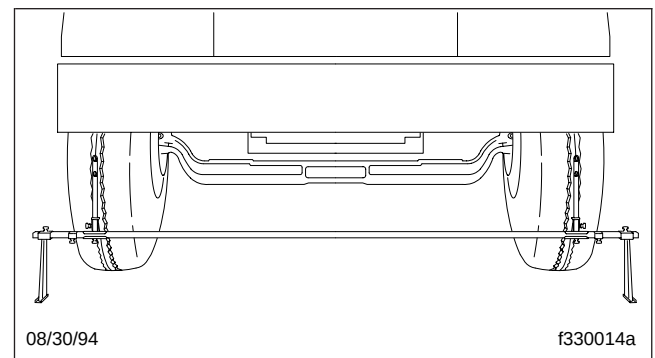
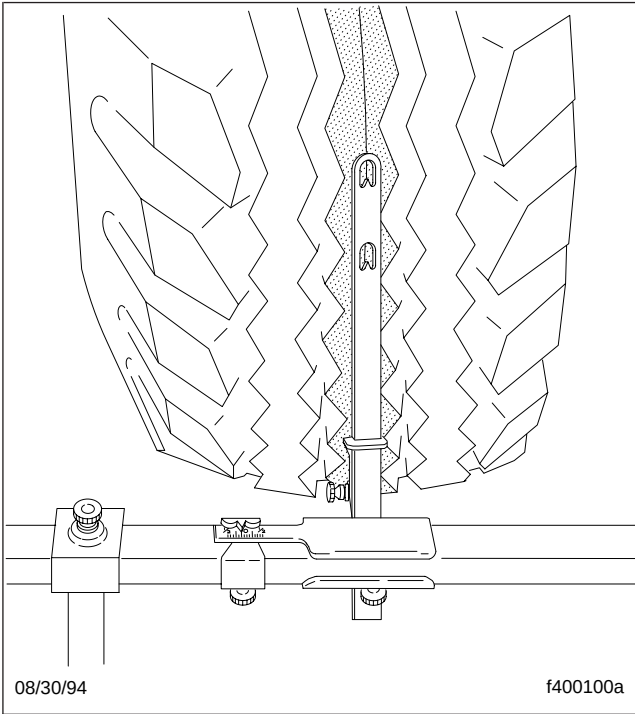

Fig. 2, Trammel Bar Positioning
Fig. 3, Calculating Wheel Toe-In
7. Place the trammel bar at the front of the tires as shown in Fig. 2. Adjust the scale end so that the pointers line up with the scribe lines. See Fig. 3.